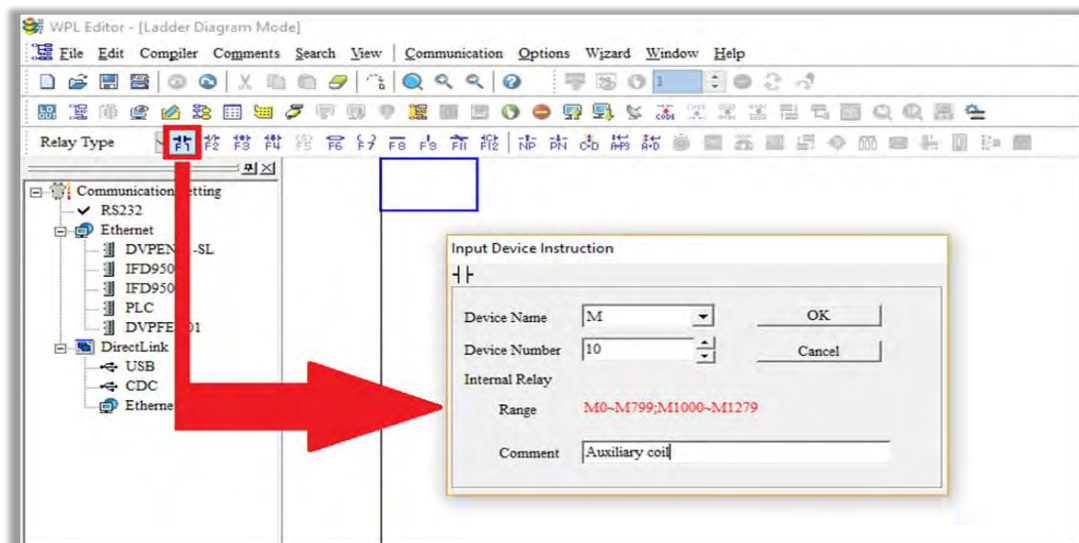

Figure 16-12
Step 2: Click on the always-open switch icon  or press the function key F1. After the name of the input device and the comment dialog box have appeared, the device name (such as "M"), device number (such as "10"), and input comments (such as "auxiliary contact") can be selected; press the OK button when finished (see Figure 16-12 and 16-13 below).